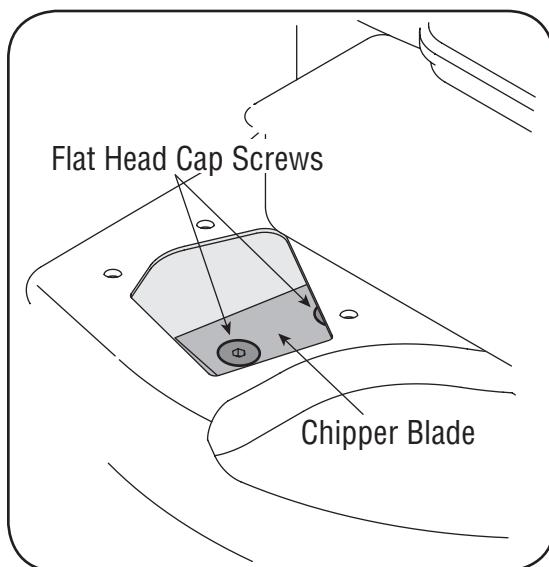

Figure 5-9
- Using a 3/16" allen wrench, remove the flat head cap screws that hold the chipper blade to the impeller. These screws are accessible through the opening created when the chipper chute was removed earlier. See Figure 5-9.